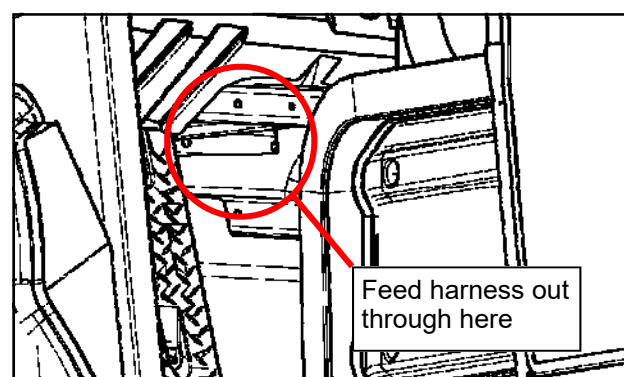

Figure 15.3: Cab harness routing
- 15.3 Feed the cab wire harness above the vehicle frame, behind the plastic wheel liner and through the gap under the dashboard as shown. **(Figure 15.3)**